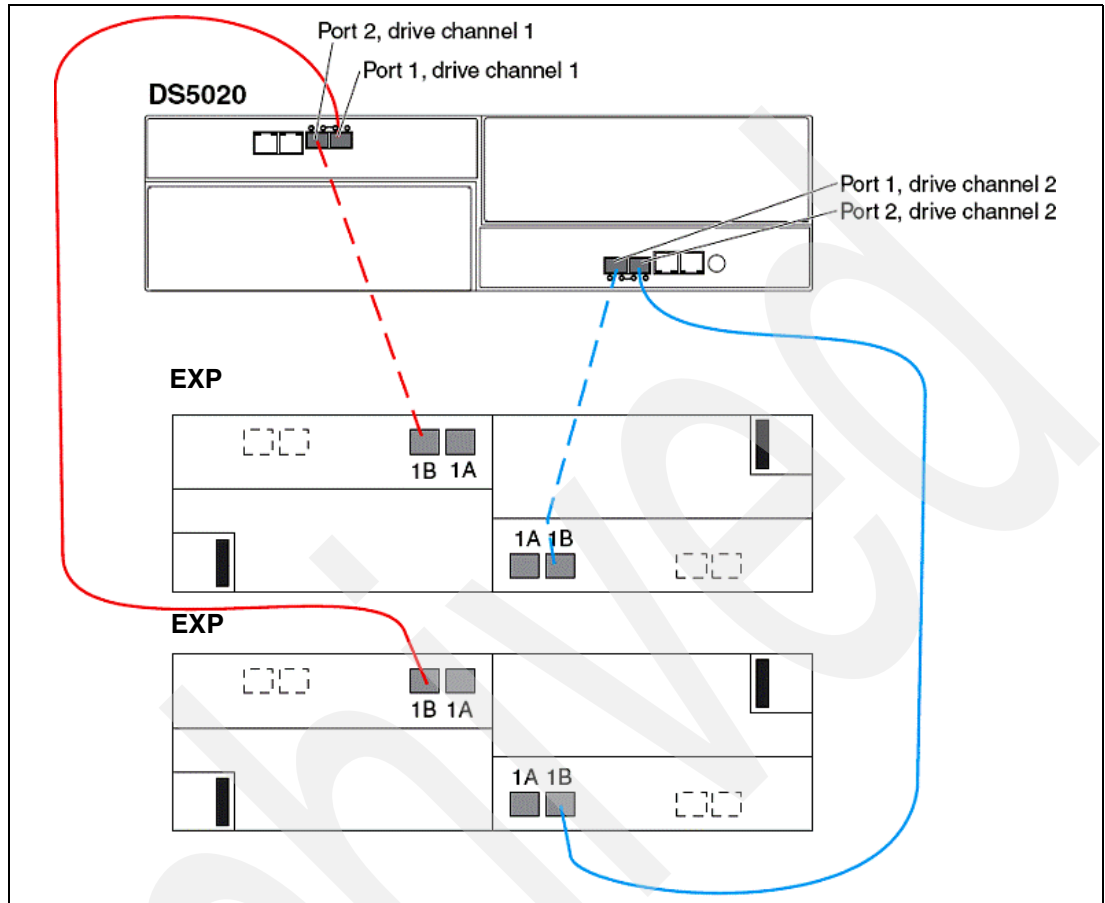

Figure 3-65 DS5020 drive cabling with two EXPs
- ▶ If you attach a second expansion unit, connect it by using the second port on the controller (controller A port 1 and controller B port 2), as shown in Figure 3-65.